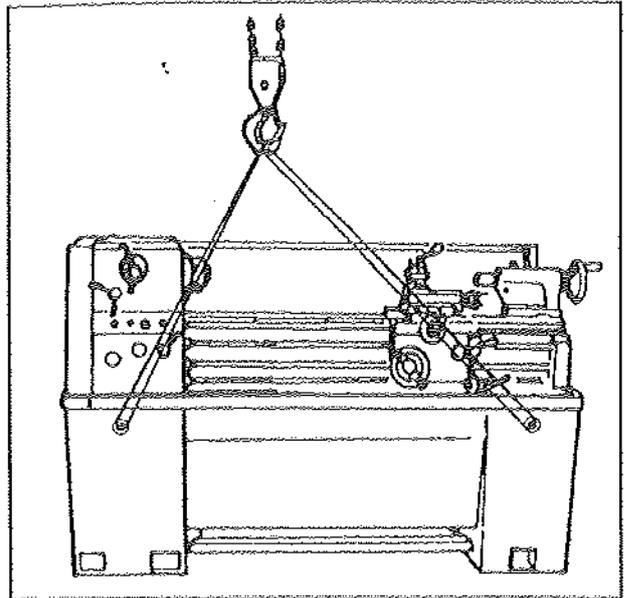

Fig. 2
4. Sling lathe after placing steel rods or pipes (of sufficient strength) into holes of lathe stand as diagrammed in Fig. 2. **Do not lift by spindle.** With adequate lifting equipment, slowly raise the lathe off the shipping crate bottom. Make sure lathe is balanced before moving.